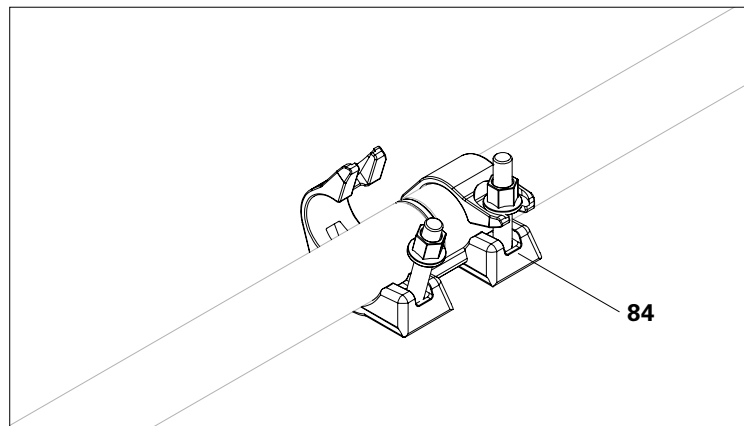

Fig. A10.07b
3. Connect scaffolding tubes with tension coupler (84). Tighten the couplings with 50 Nm. (Fig. A10.07b)